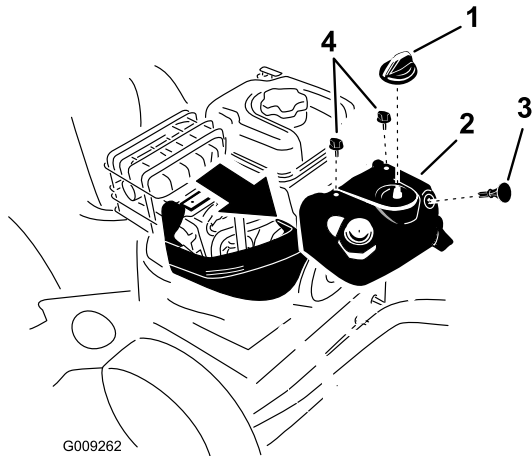

Figure 44
Note: To access the spark plug, you must first remove the upper snow hood (Figure 44).
1. Remove the choke knob and the ignition key (Figure 44).
2. Remove the 2 screws that secure the upper snow hood to the snowthrower (Figure 44).